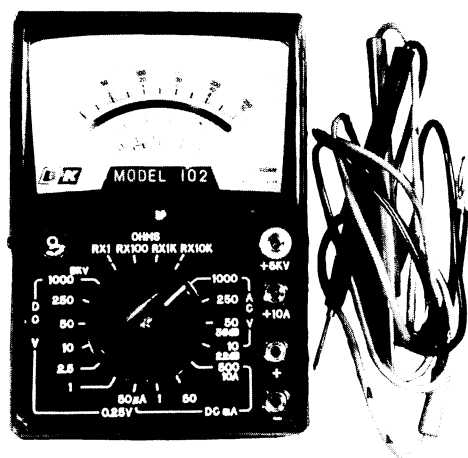

Fig. 3-33 A volt-ohmmeter for electric circuit testing
**Volt-Ohm Meter.** When a test light won't quite do it, you'll need a voltmeter to determine an accurate output. The ohmmeter will tell you the electrical resistance of a circuit—not bad for checking point conditions. Don't leave the meter in an ohm reading position as the batteries will run down. Also, don't try to read the resistance in a power-on circuit—the meter won't last long. Look for a meter that is protected by a fuse or circuit breaker (Fig. 3-33). A combination meter is usually cheaper than two separate meters.